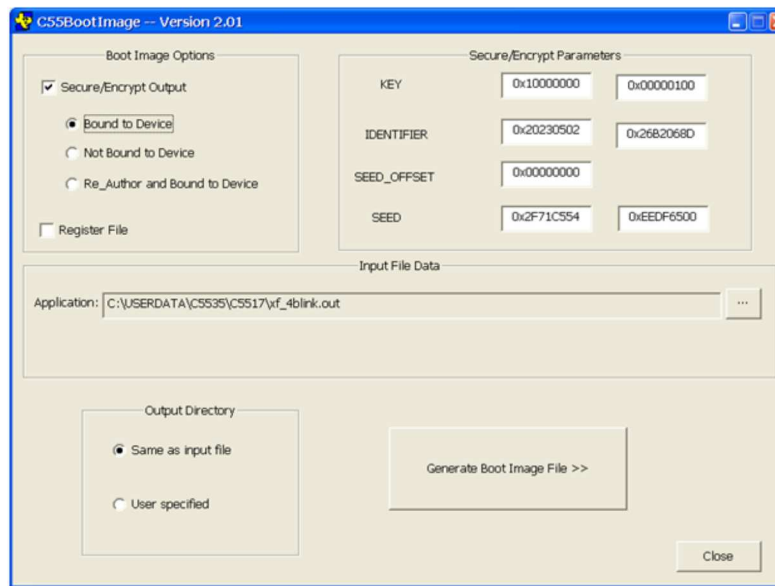

Figure 3. Creating an Encrypted Boot Image: Bound to Device
- Bound to Device (Figure 3)
(b) Type the Identifier. The identifier is the unique device ID which the boot image is meant to be bound to (see Figure 3).